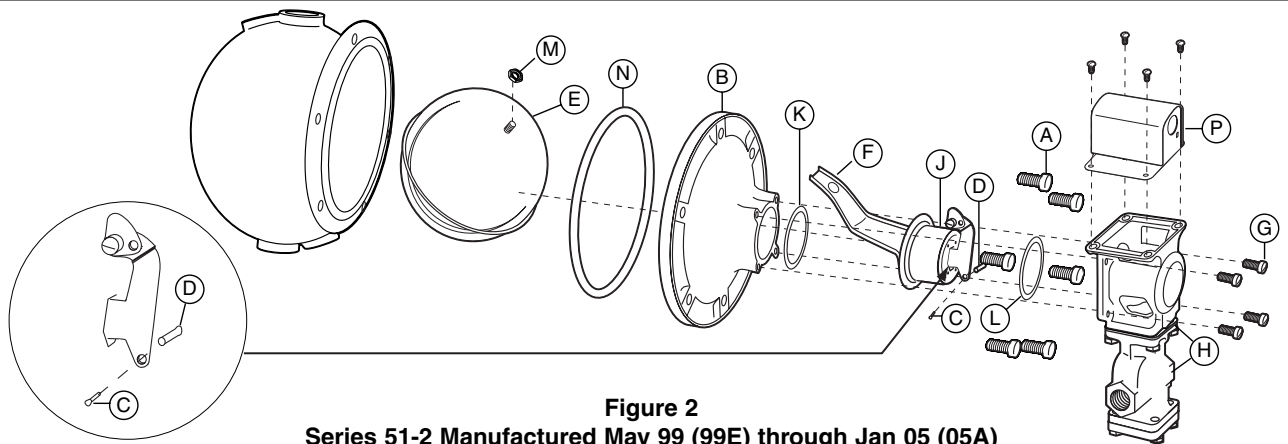

Figure 2
- **Units manufactured after May 99 (99E) through January 05 (05A) use figure 2 or 4**
- If necessary, remove the four (4) screws that hold the No. 2 (P) switch and remove switch.
- Remove piping from the valve assembly (H) only.
- Remove the six (6) bolts (A) that hold the head onto the float chamber and remove the head flange (B).
- Remove cotter pin (C) and pin (D) from the float arm and valve linkage.